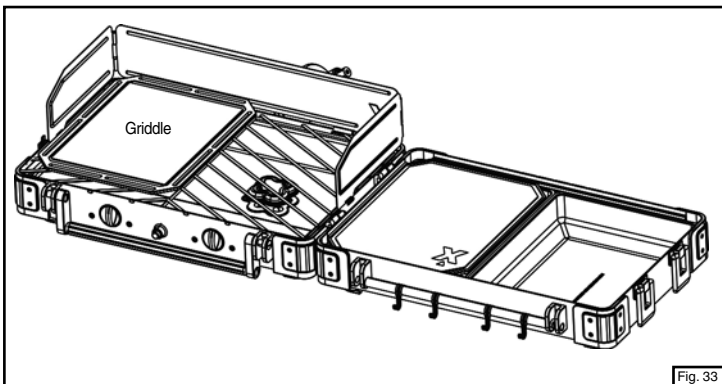

Fig. 33
- Lay the griddle on the left or right side of the grate over the burner. The feet on the bottom side of the griddle must engage the grate (Fig. 33).